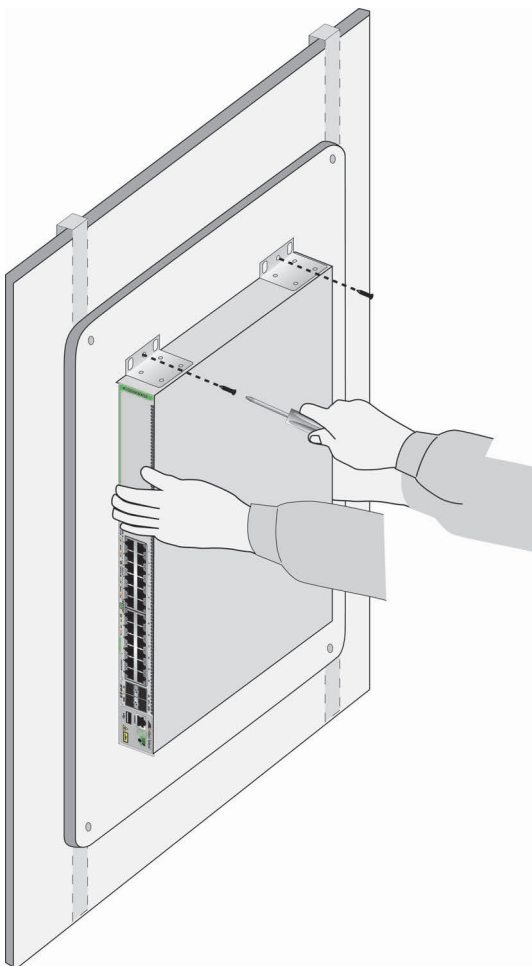
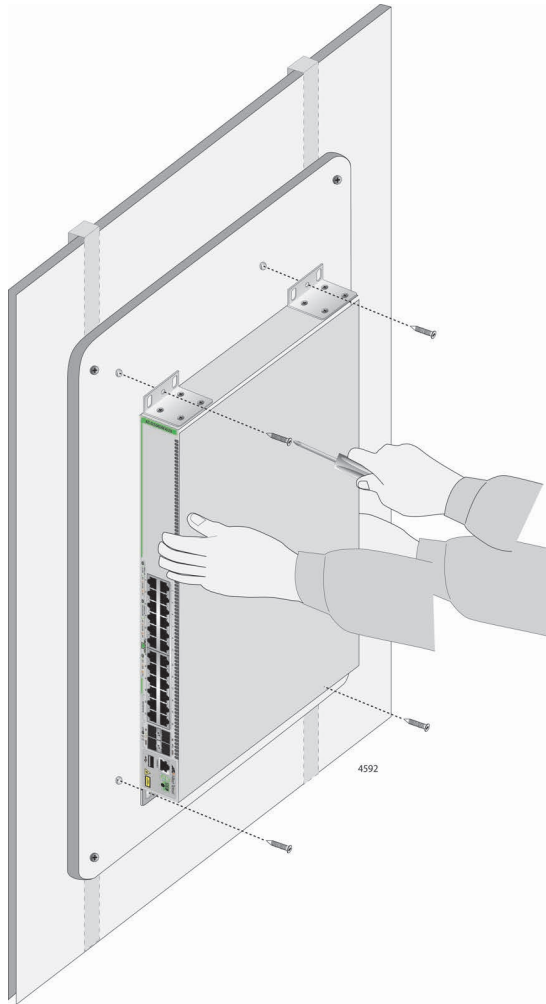

Figure 48. Securing the AT-GS980MX/28 or AT-GS980MX/28PSm Switch to the Plywood Base
Figure 49. Securing the AT-GS980MX/10HSm, AT-GS980MX/18HSm, AT-GS980MX/52 or AT-GS980MX/52PSm Switch to the Plywood Base
3. After attaching the brackets, have another person hold the switch on the plywood base on the wall while you secure it with the M4x32.3mm screws included with the switch. Refer to Figure 48 on page 100 for the AT-GS980MX/28 or AT-GS980MX/28PSm Switch or Figure 49 on page 101 for the AT-GS980MX/10HSm, AT-GS980MX/18HSm, AT-GS980MX/52 or AT-GS980MX/52PSm Switch.